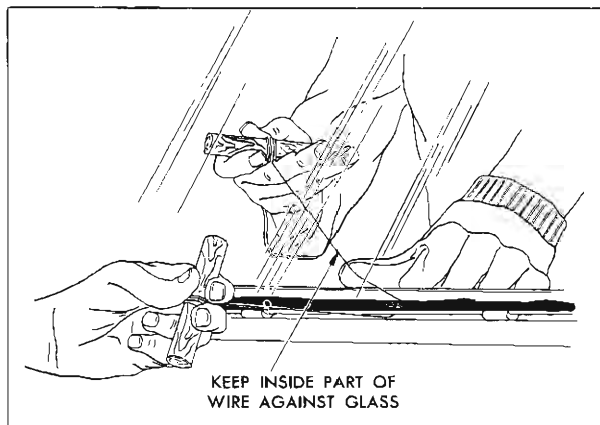

Fig. 11-17 Removal of Glass
6. With aid of helper, carefully cut (pull steel wire) through caulking material, up side of windshield, across top, down opposite side and across bottom of windshield (Fig. 11-17). Make sure inside wire is held close to plane of glass to prevent cutting an excessive amount of caulking material from opening. This can be accomplished by holding inside wire close to plane of glass with one hand while pulling wire with other hand.
6. With aid of helper, carefully cut (pull steel wire) through caulking material, up side of windshield, across top, down opposite side and across bottom of windshield (Fig. 11-17). To facilitate cutting through rubber spacers, use a sawing motion with steel wire. Avoid contact to steel music wire with garnish moldings by keeping inside wire close to plane of glass.